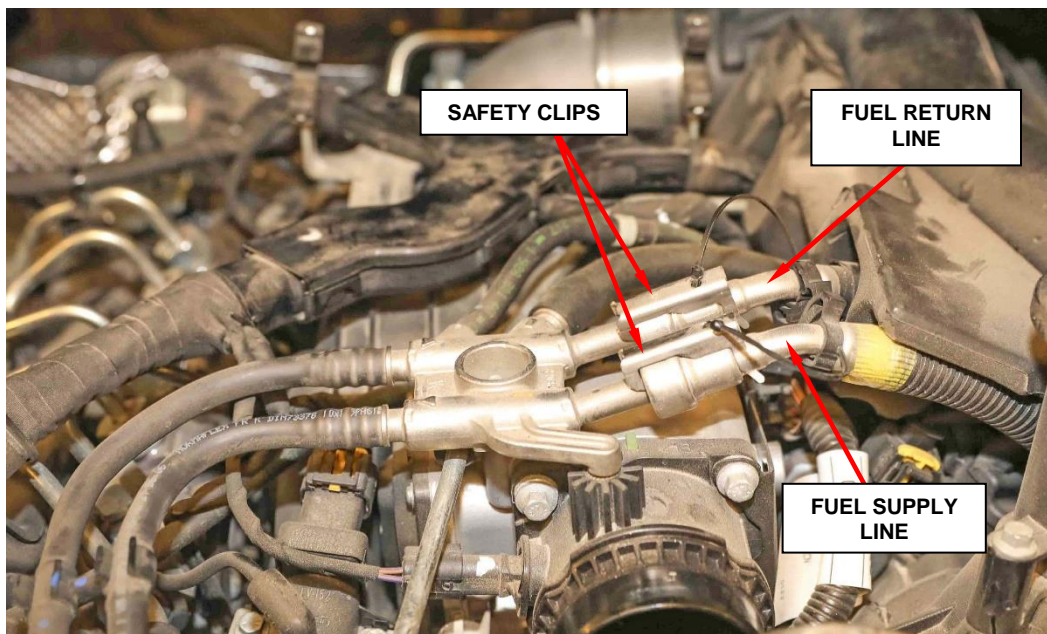

Figure 20 – Fuel Lines
26. Disconnect the supply and return lines from the fuel manifold (Figure 20).
20. Connect the supply and return lines to the fuel manifold and engage the safety clips (Figure 20).